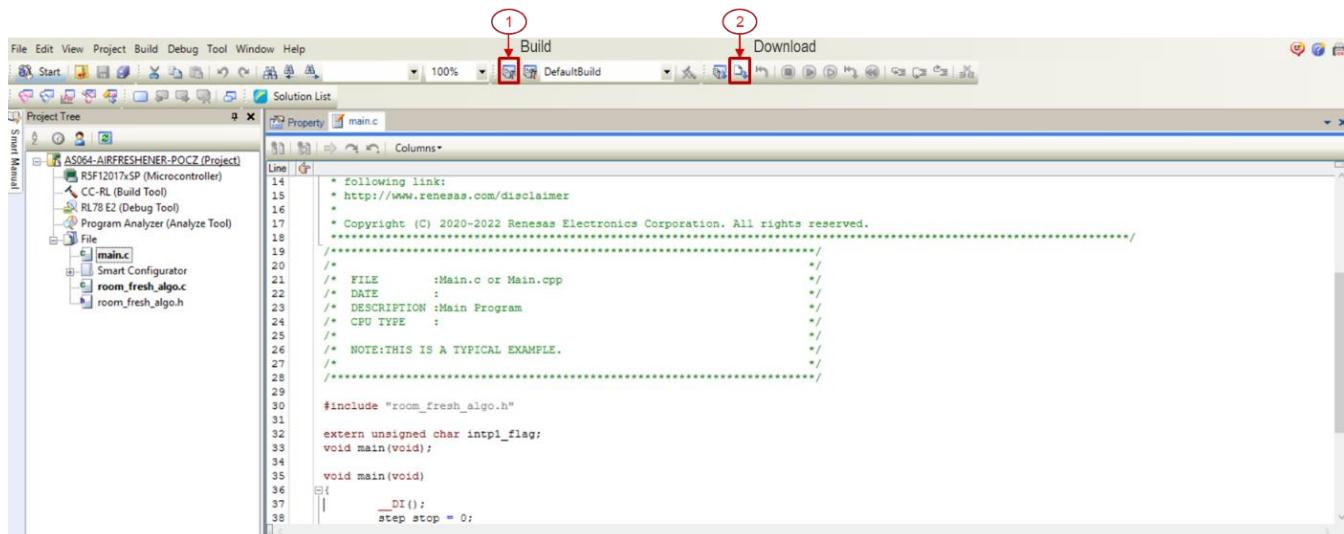

Figure 11: Build and Download the project
2. Once the project opens, click on build icon (marked as 1 in Figure: 11), or press F7 to build the project. Once build is successful, click on download icon (marked as 2 in Figure: 11), or press F6 to download the project.